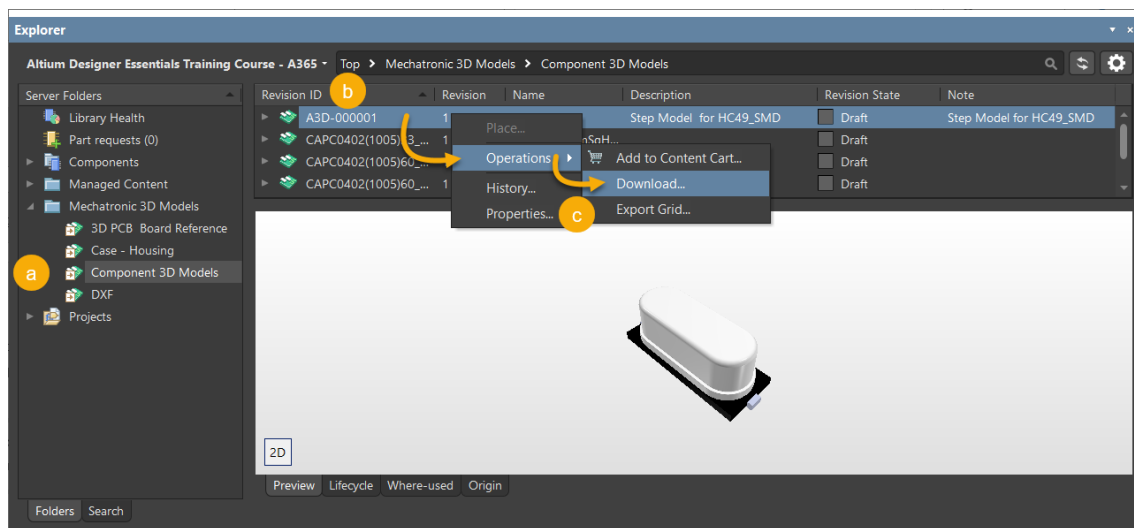

Figure 32. Download STEP Model
46. Open the *Explorer* panel and follow the instructions below as seen in Figure 32: